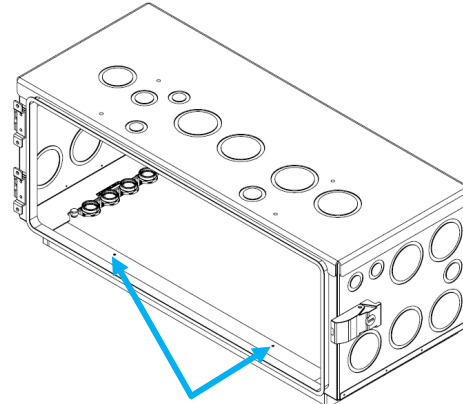

Figure 1 – Screw Install Location
Step 1 (if applicable): Identify the four screw locations that attach to the All Weather battery on the lower side of the conduit box. **(Figure 1)**. Place the conduit box on top of the battery and use the (4) screws provided with the battery to tighten the conduit box to the battery.